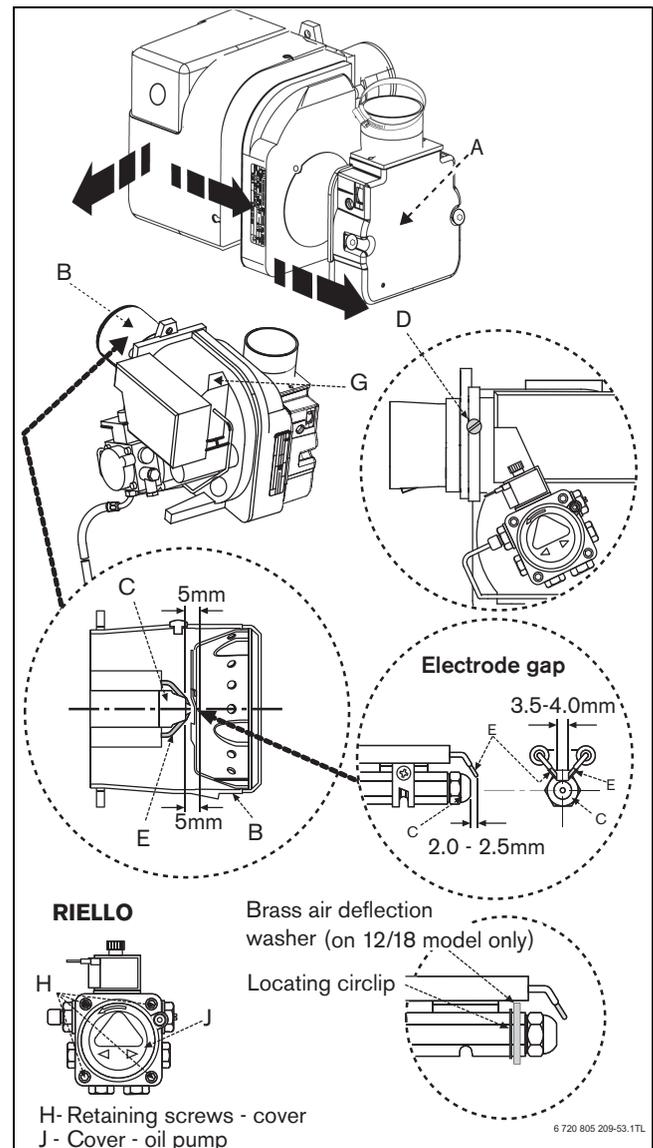

Fig. 73 Burner detail
Before removing or fitting a nozzle [C], loosen screw [D] and move the electrodes [E] forward. After refitting check that the electrode gaps are correct, as shown in figure 73.
- ▶ Check the electrodes [E] and reset if necessary as shown in figure 73.